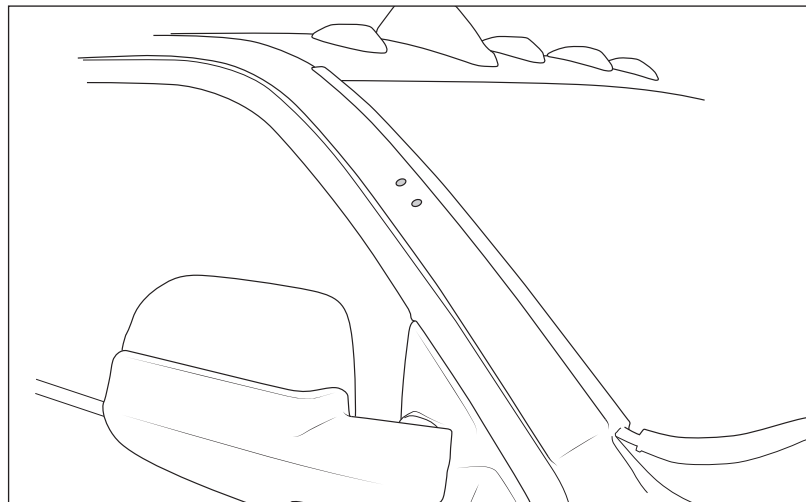

Figure 8
7. Center punch and drill the two A-pillar mounting locations out to 1/2" (fig. 8).